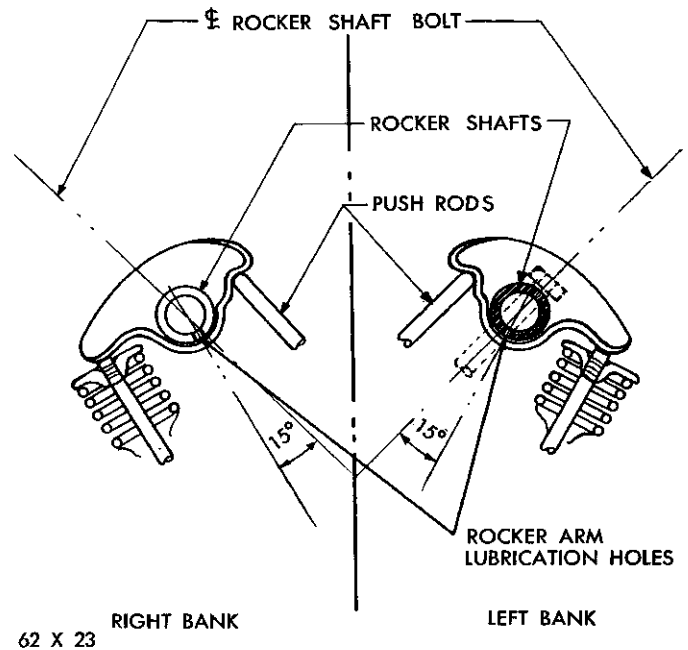

Fig. 5—Rocker Arm Lubrication Holes
- (1) Install the rocker arms and shaft assembly making sure to install the long stamped steel retainers in the number two and four positions.
- (2) Install the rocker shafts so that the $\frac{3}{16}$ inch diameter rocker arm lubrication holes point downward into the rocker arm, so that the 15° angle of these holes point outward towards the valve end of the rocker arms, as shown in Figure 5. This is necessary to provide proper lubrication to the rocker assemblies.